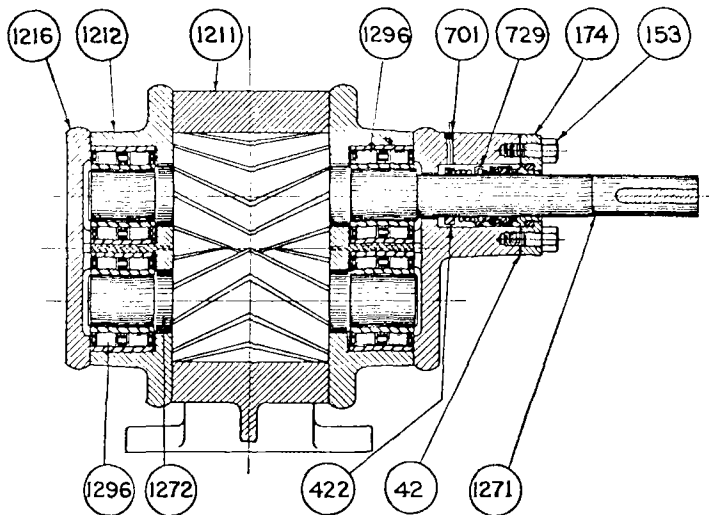

Fig. 14
plug on top of stuffing box casting. Loosen set screw holding seal collar (422) to shaft. (Fig. 14)